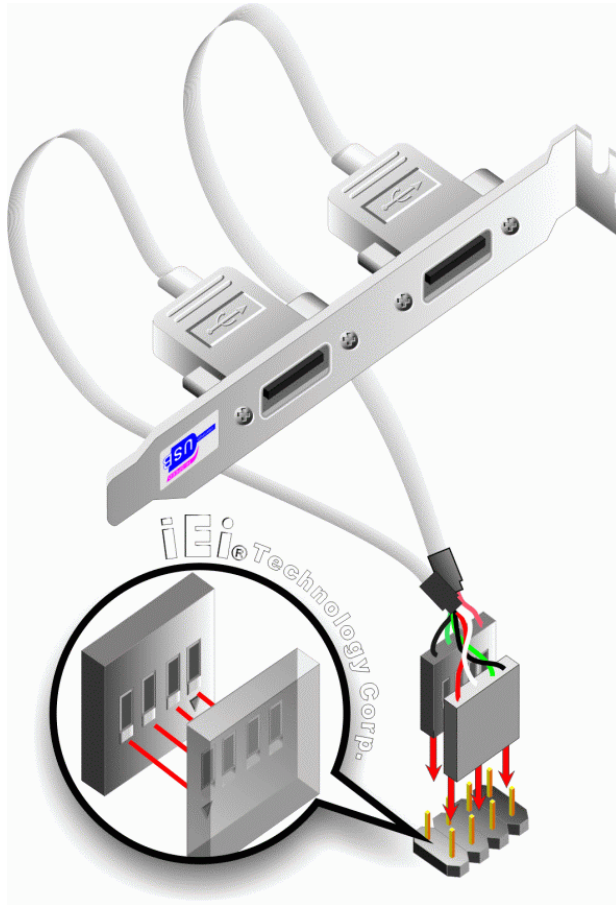

Figure 5-20: Dual USB Cable Connection
Step 3: Insert the cable connectors. Once the cable connectors are properly aligned with the USB connectors on the WAFER-9102, connect the cable connectors to the on-board connectors. See **Figure 5-20**.